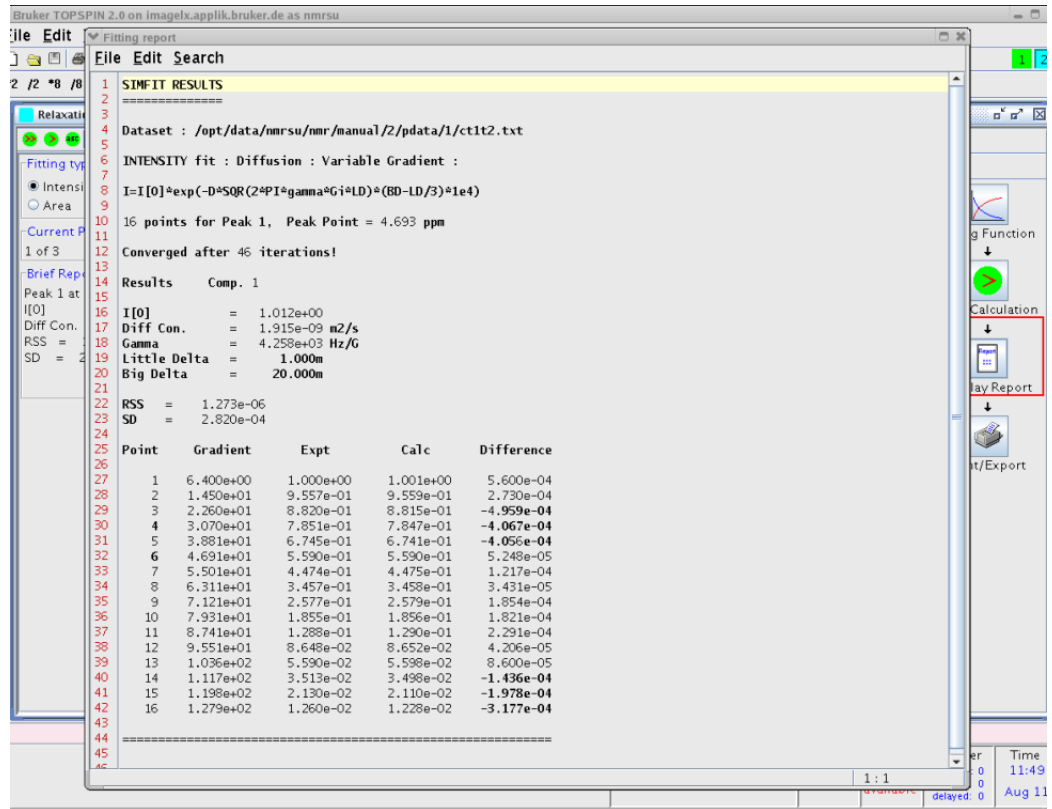

Figure 3.16 Simfit Results
- Click on the **Display Results** button (see Figure 3.16). An editor window is opened showing the results in a more detailed view, together with the measured data and the calculated points. These are also stored in the file ct1t2.txt in the processed data directory.